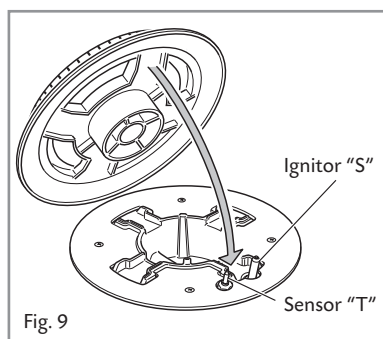

Fig. 9
- Check that the electrode **S** (figs. 9 and 13) is always clean to ensure trouble-free sparking.
- Check that the probe **T** (figs. 9 and 13) next to each burner is always clean to ensure correct operation of the safety valves.
The triple ring burner must be correctly positioned (see fig. 9); the burner ribs must be fitted in their housing as shown by the arrow.